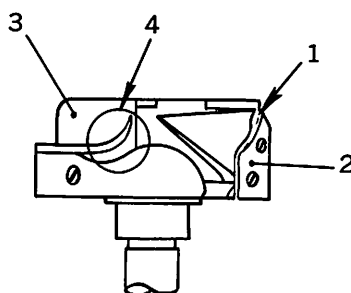

Fig. 26
The rotating hooks for models LTW-27BK and LSW-27BLK have been developed specifically for these machines and are provided with specific clearances (1)—Fig. 26—to allow the most effective transit of the sewing thread. Furthermore, the hook for model LSW-27BLK with its larger bobbin provides for much increased thread volume.